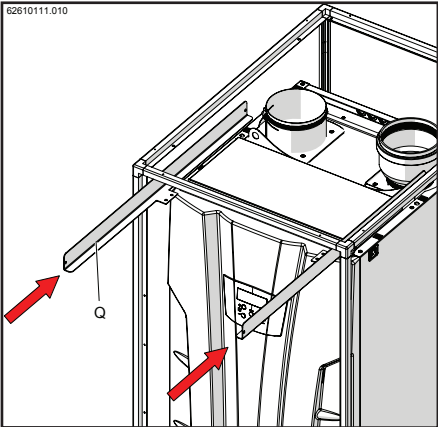
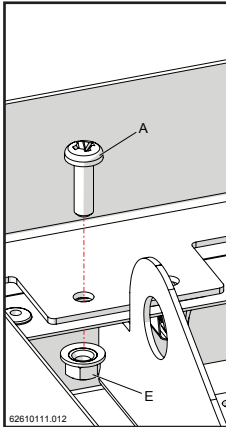
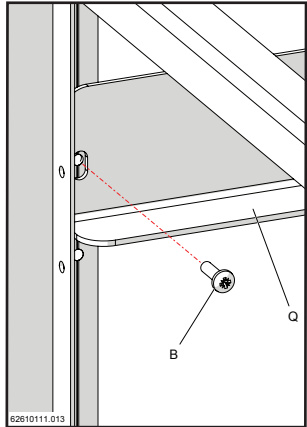

Figure 12-12
Figure 12-14
Figure 12-15
- 7.- Insert the upper fixing brackets "Q" (figures 12-12 and 12-13). Then insert screw "A" with nut "E" to fasten the brackets to the appliance (figure 12-14) and screw "B" to fasten the brackets to the frame of the outdoor covering (figure 12-15).